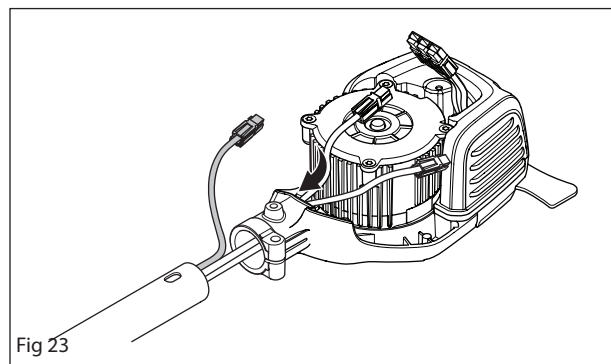

Fig 23
- 5 Unplug the motor cabling connector. Split the connector in order to be able to thread the cable out of the saw head. See figure 23.